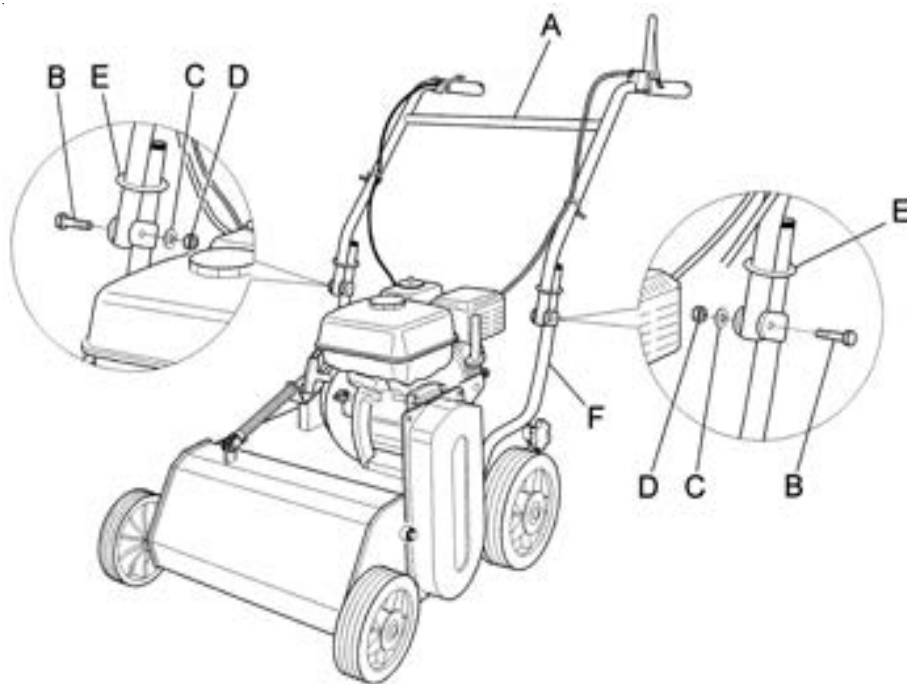

Figure 2
The scarifier is delivered with the handlebar disassembled (Fig.2 ref A). Remove the crating or cardboard packaging (this should be disposed of properly, in compliance with current regulations in force).
- Raise the handlebar (Fig. 2 ref. A) and fit it into the support (Fig. 2 ref. F) by securing it using the special rings (Fig. 2 ref. E).
- Fit the screws (Fig 2 ref. B) in the hole in the handlebar support (Fig 2 ref. F). Position the washers (Fig. 2 ref. C) on the relative screws (Fig. 2, ref. B) and tighten the nuts (Fig. 2 ref.D) firmly.